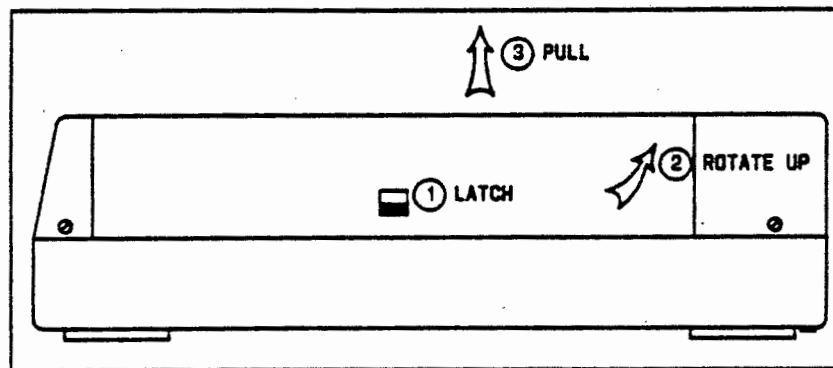

Figure 4-1. Removing Cable Access Door
1. Remove the cable access door by pulling up on the latch, then lifting up and pulling out on the door. (See Figure 4-1.)